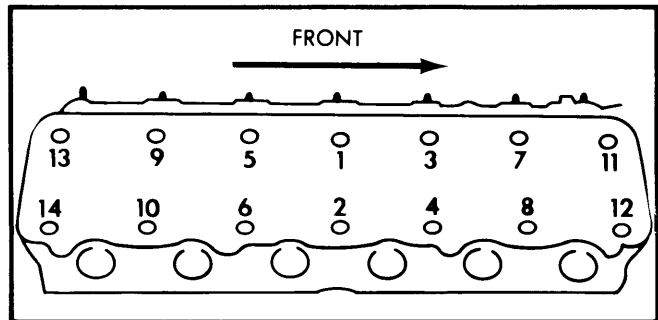

Fig. 1 Cylinder Head Tightening Sequence.
**Installation** — Clean all gasket surfaces and coat new gasket with suitable sealer. Install gasket and cylinder head on block. Install cylinder head bolts and tighten in 2 steps to specifications. See Fig. 1. To complete installation, reverse removal procedure.